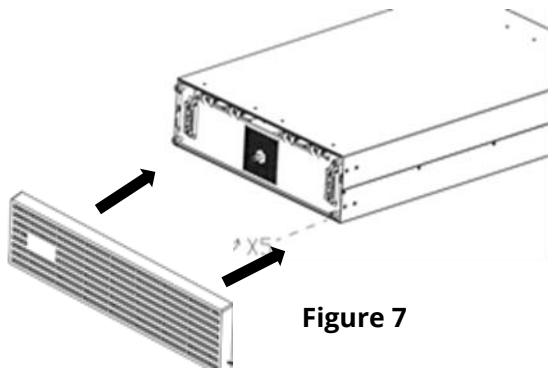

Figure 7
- 8) Re-attach the plastic front panel by pressing it directly into battery pack case until it locks into place. (Figure 7)